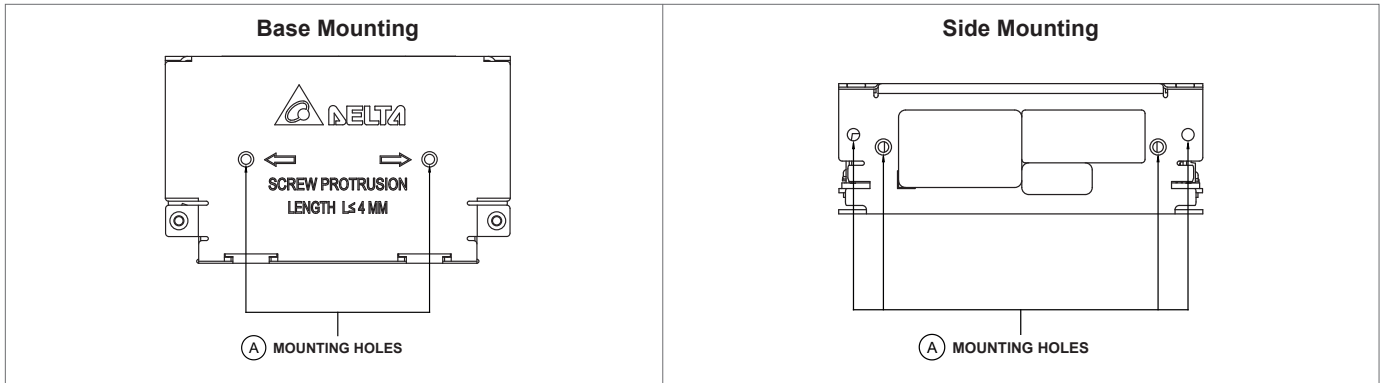

Fig. 2.1. Mounting Hole Locations
► PJU-60W□□□□ / PJU-60W□□□□: Enclosed / L Frame (Refer to Fig. 2.1, 2.2)
- The power supply shall be mounted on a sturdy heat conducting surface with minimum of 2 mounting holes (Fig. 2.1, (A)) for base mounting or side mounting. Use M3 screws only. The screw penetration into the chassis must be 3.5-4mm. For the other mounting holes without screw threads, please use suitable screw and nut.